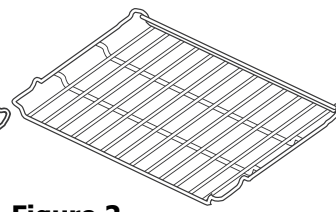

Figure 2
- **Offset oven rack** (Figure 2).
The **Offset Oven Rack** is used to maximize cooking space (See Figure 2). The offset rack can be used in the lower rack position to roast large cuts of meat and poultry.